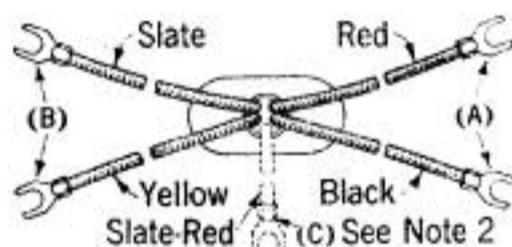

Fig. 10
Note 2: In Fig. 10, lead (C) is only on 195B Condenser and is connected to the can. The can has an insulating finish coating.